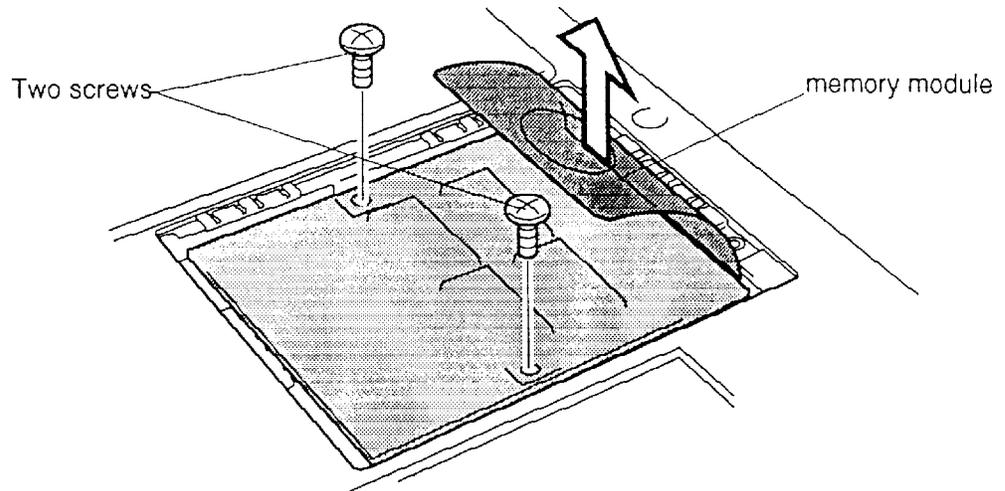

Figure 4-5 Removing the memory module
6. Remove two screws securing the module to a brace at the center of the module and set them aside (figure 4-5).
2. Secure the module to the brace with two screws (figure 4-5).